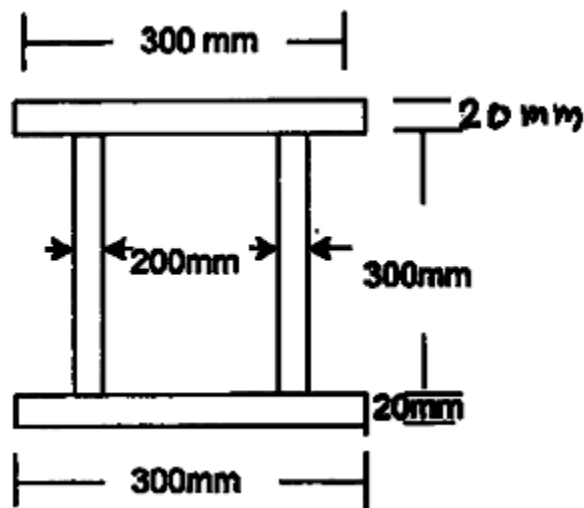

Fig. 6
- (b) A hollow box section is as shown in Fig. 6, spans a gap of 5 m and is subjected to a u.d.l. of intensity 30 kN/m including its self weight. Determine the maximum shear stress developed at a section 1.5 m from one end of the section assuming ends simply supported. [8]